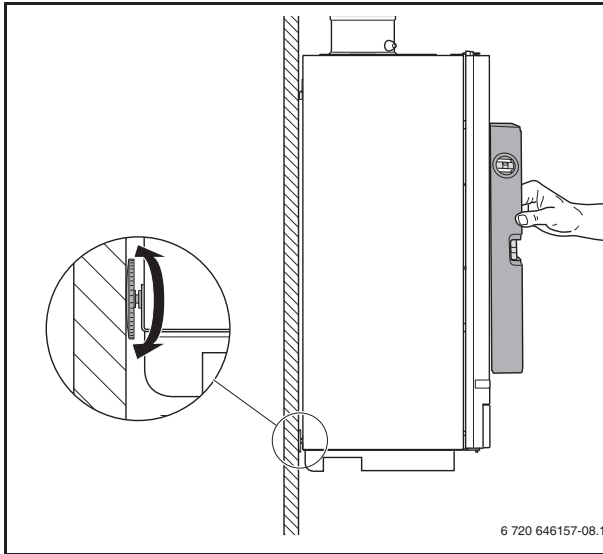

Fig. 8 Aligning the boiler with the set screw
- Level the boiler with the set screw and a spirit level (fig. 8, page 15).